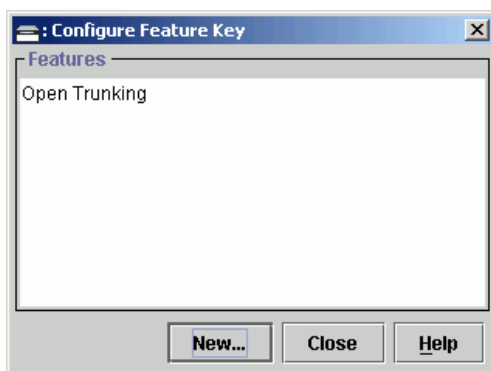

Figure 2-78 Configure Feature Key Dialog Box
2. At the *Hardware View*, click *Configure* at top of the view and select *Features* from the pop-up menu. The *Configure Feature Key* dialog box displays (Figure 2-78).